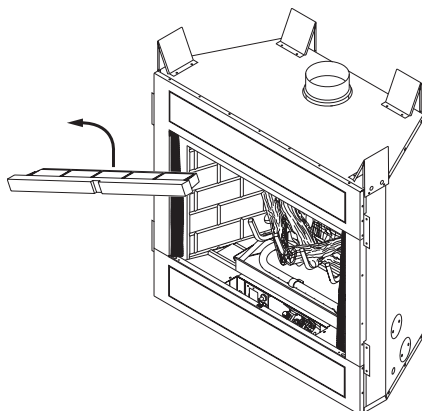

Figure 12 - Removing Front Refractory Access Panel (P325E/VP325E Model Shown)
After completing and checking electrical, gas and vent connections, follow lighting instructions and allow main burner to run for approximately 5 minutes. Hold a lighted match or cigarette near top edge of fireplace opening and play it along entire length of the opening (see Figure 12, page 12). Proper venting should tend to draw the flame or smoke into the appliance. Improper venting or escaping of spillage of burned gas, is indicated when the match flickers or goes out. Smoke from a cigarette will also tend to disperse away from the appliance.
1. Remove front refractory access panel by lifting up and angling out of firebox opening (see Figure 12).